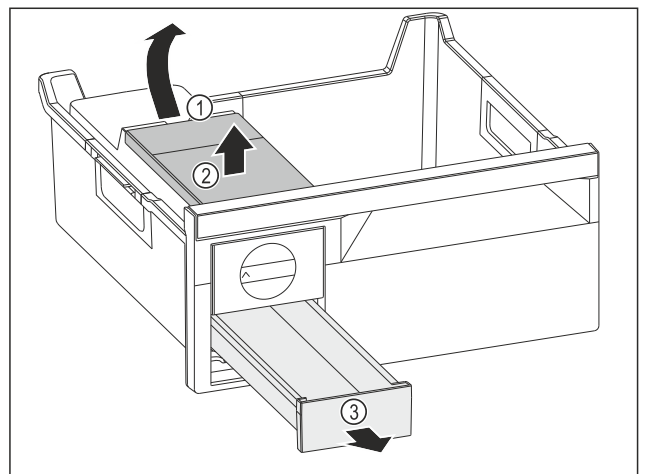

Fig. 171
- ▶ Removing the water tank: Lift the water tank by the recess Fig. 171 (1).
- ▶ Remove the water tank Fig. 171 (2) upwards.
- ▶ Remove the ice cube drawer Fig. 171 (3) to the front.